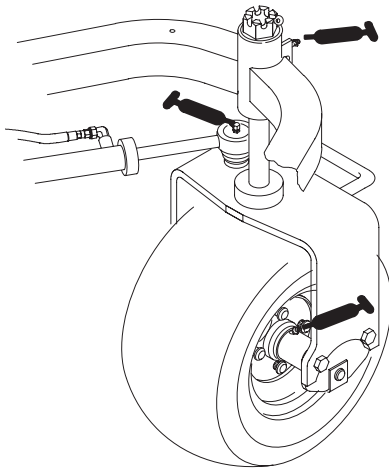

Figure 42
- Rear wheel hub (1)
- Castor bearing (1)
- Steering cylinder (2) (Fig. 42)